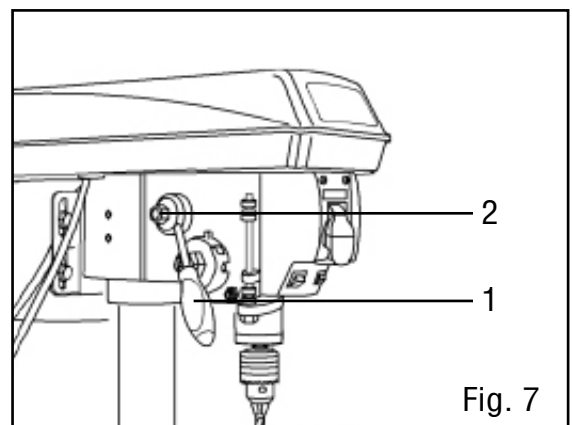

Fig. 7
SPEED HANDLE (FIG. 7)
1. Insert the speed handle (Fig. 7 - 1) into the threaded opening on the speed hub (Fig. 7 - 2).